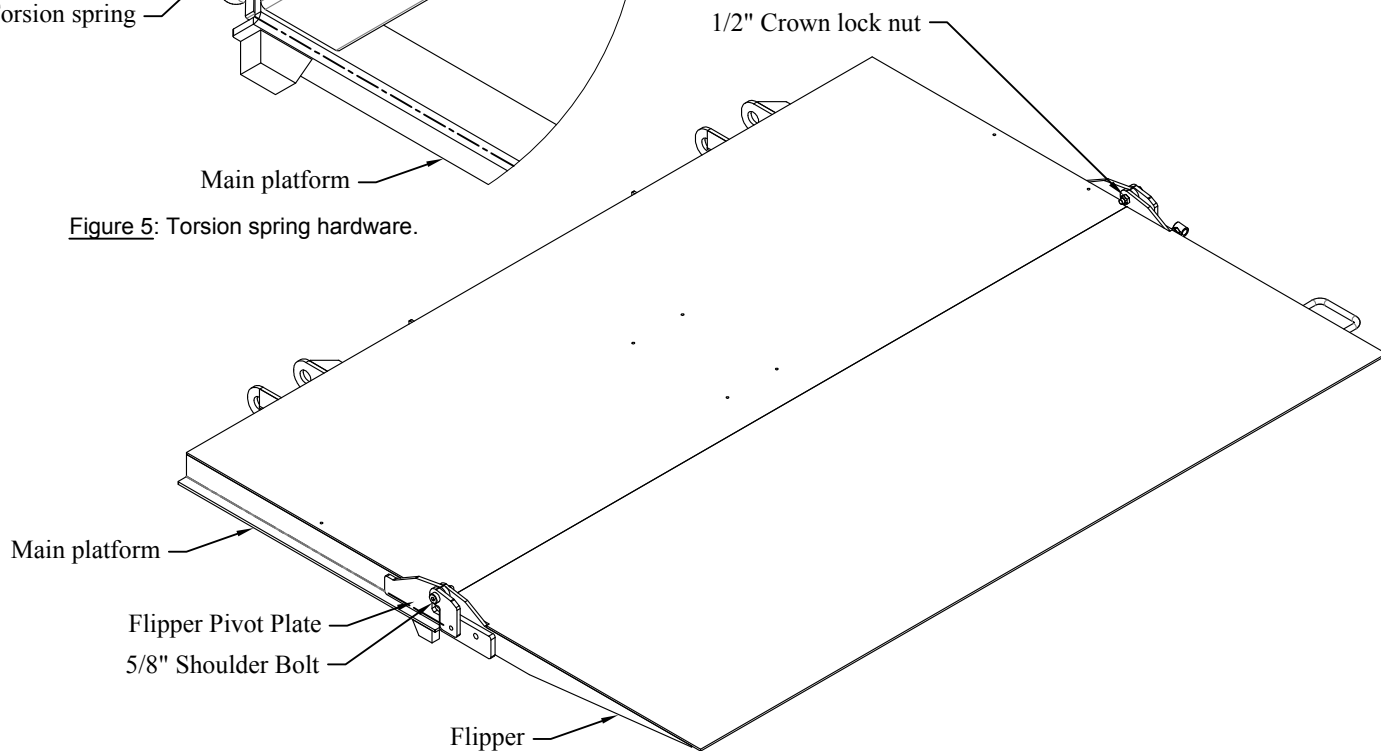

Figure 6: Flipper Removal.
4. **UNFOLD** the flipper (Figure 6).
5. **REMOVE** the 5/8" shoulder bolts and 1/2" crown lock nuts from flipper pivot plates (Figure 6).